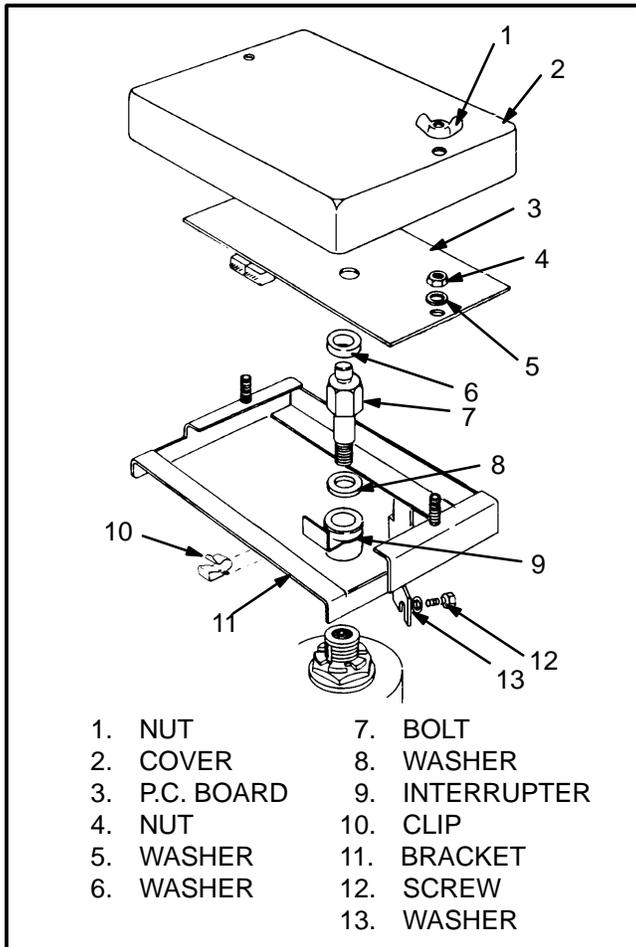

FIGURE 8 – STEERING ANGLE CONTROL BOARD MOUNTING
1. Remove the two wing nuts retaining the steering angle control board cover and remove the cover. See FIGURE 8.